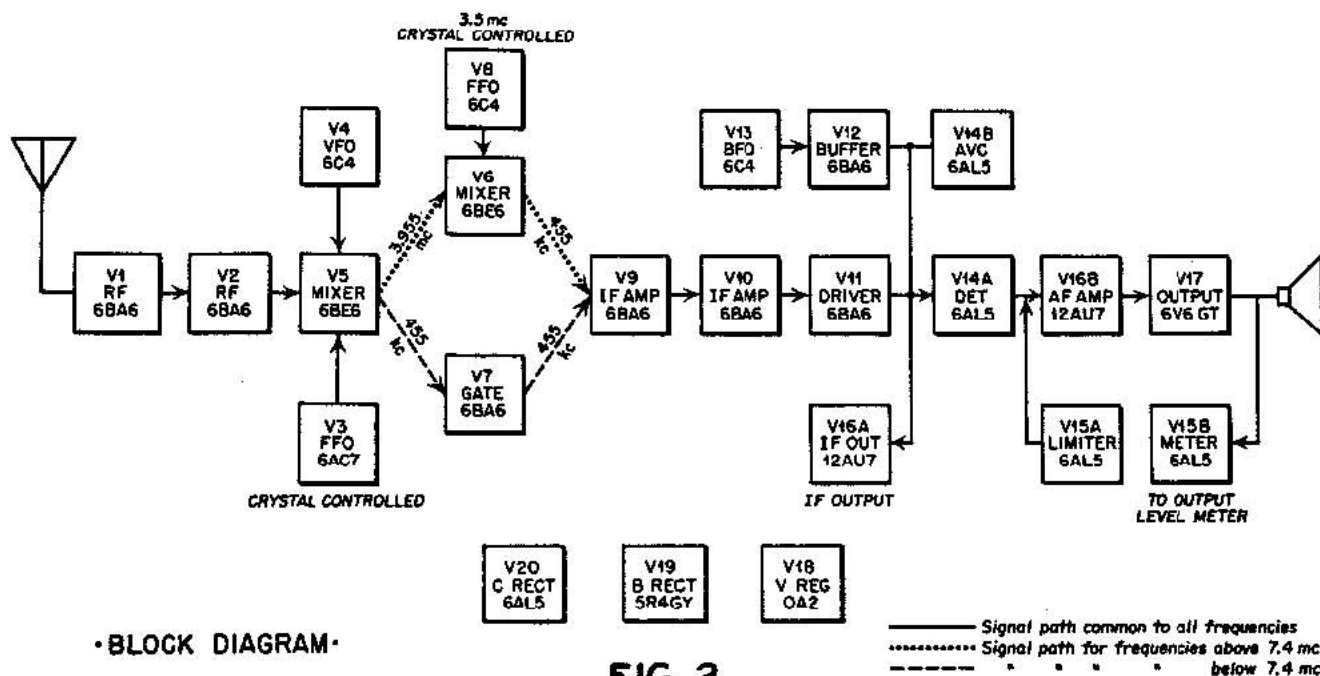

FIG. 2
**General** — The circuit is shown schematically in Figure 11. A block diagram, Figure 2, is provided to more clearly show the arrangement and functions of the various circuit sections. The location of the various tubes is shown in Figure 3. The circuit, for single conversion, used for signal frequencies up to 7.4 mc consists of two stages of RF amplification V-1 and V-2, First Mixer V-5, First Heterodyne Oscillator V-4, four stages of IF amplification V-7, V-9, V-10 and V-11, Detector and AVC rectifier V-14, Noise Limiter V-15, Beat Frequency Oscillator V-13, IF output and AF amplifier V-16-A and V-16-B, Output Power stage V-17 and the Power Supply system which includes B Power Rectifier V-19, C Bias Rectifier V-20 and Voltage Regulator V-18.